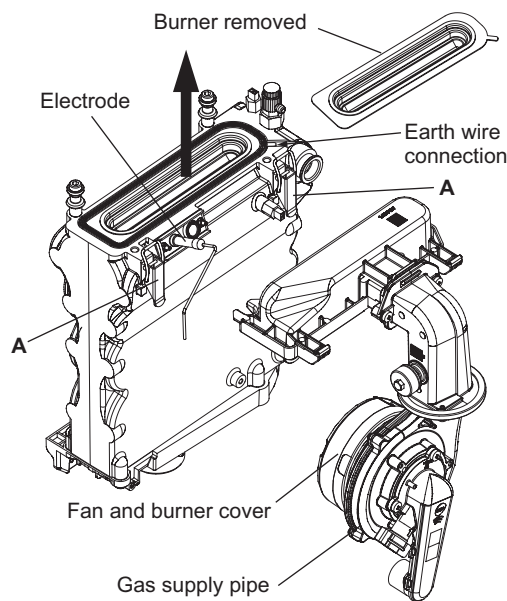

Fig. 6.5
### 6.3 PREPARE FOR SERVICING - Fig. 6.5
10. Unlatch the two clips 'A' in Fig. 6.5 securing the fan and burner cover and remove the complete assembly.
8. Unlatch the two clips 'A' in Fig. 6.5 securing the fan and burner cover and remove the complete assembly.